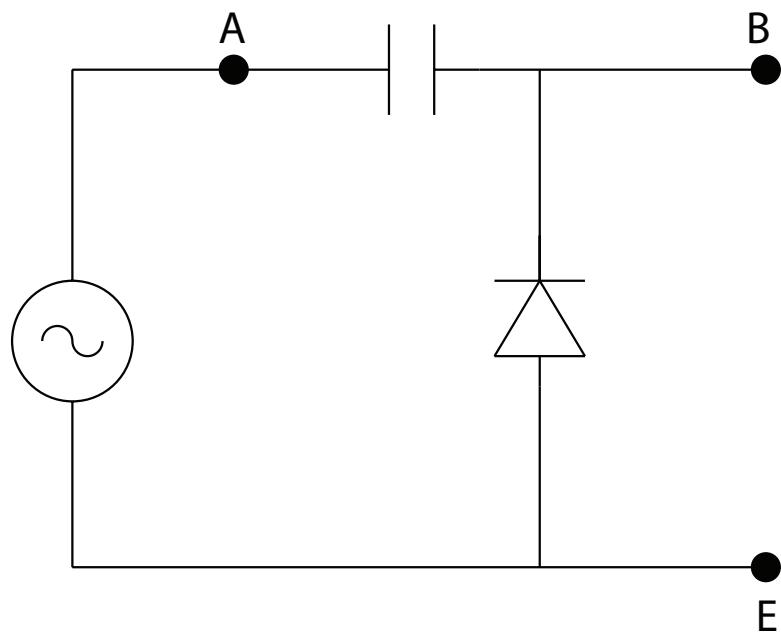

Figure 29: Voltage Clamper Circuit
By using diode and capacitor, voltage clamper is a way to let the output voltage rise or fall. The reason for it, it is because that it uses capacitor charging properties. The circuit is shown in Figure 29.
- Use 10nF's capacitor and build the circuit as shown in Figure 29.